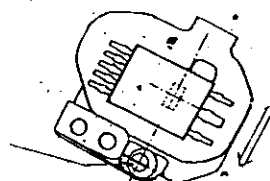

Fig. 23
- Adjust as in method 1, figure 23.